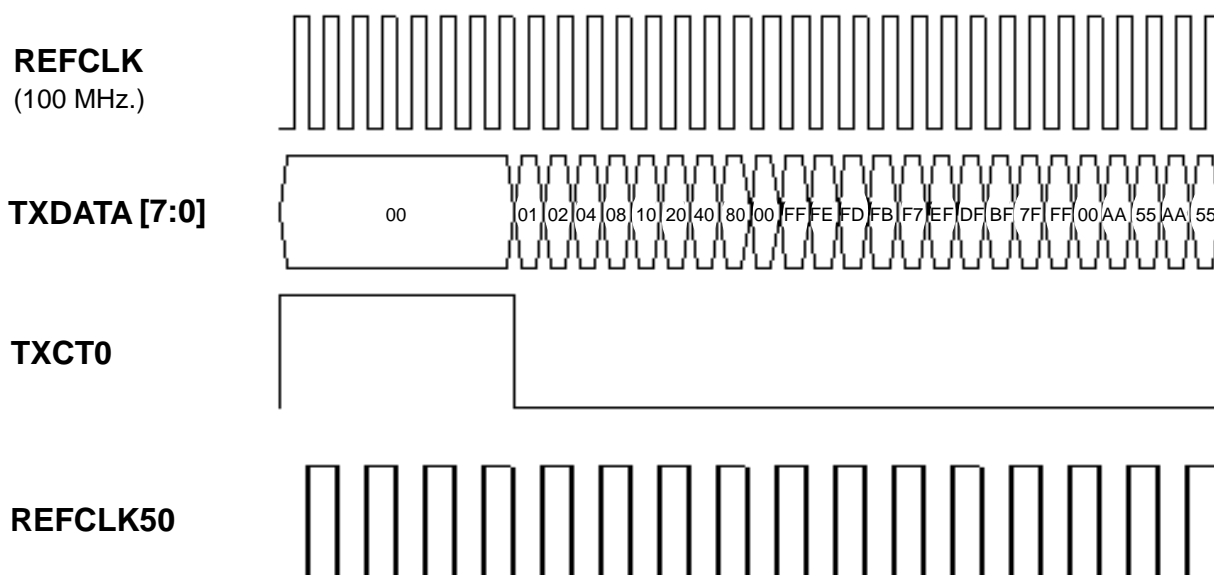

Figure 7-8. Generated Clock, Data and Control Signals for Encoded Mode from DG2020
1. Load the Cypress supplied file 0404EN.PDA in DG2020 data generator. If you are using a different data generator, use a waveform similar to the one shown in *Figure 7-8*.
3. Repeat the procedure for channel B. However, because REFCLKB is half the frequency rate, only every other data value will be clocked in. Therefore, the data output from the receiver will be either 05, 01, 04, 10, 40,... or 05, 00, 02, 08, 20, 80,... (see *Figure 7-8* on page 24).